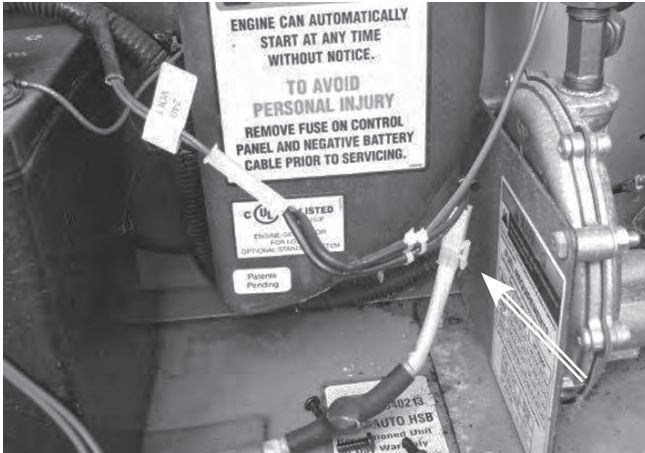

Figure 6
2. Plug the 240V splitter harness into the battery warmer connector (arrow, Figure 6).